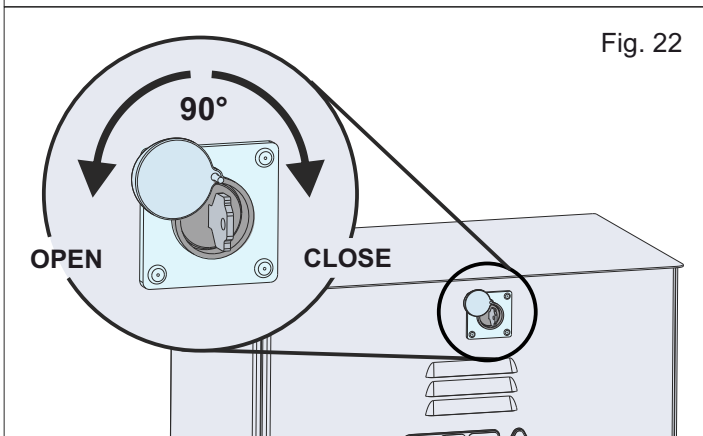

Fig. 22
- Open the lock cover, insert the key and turn it anti-clockwise by 90° - Fig. 22
- Close the casing door panel and tighten it by turning the key 90° clockwise - Fig. 22